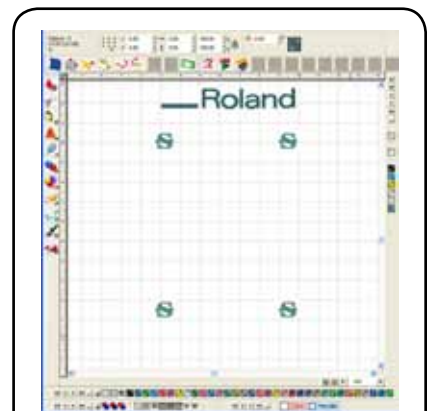

Fig. 25 - Use [**Ctrl + click**] to hide the **Color** layer, thereby revealing objects on the **Metallic** layer.
- Also note that the Sheet Layer palette has been configured with two layers: “Color” and “Metallic” (Fig. 25).